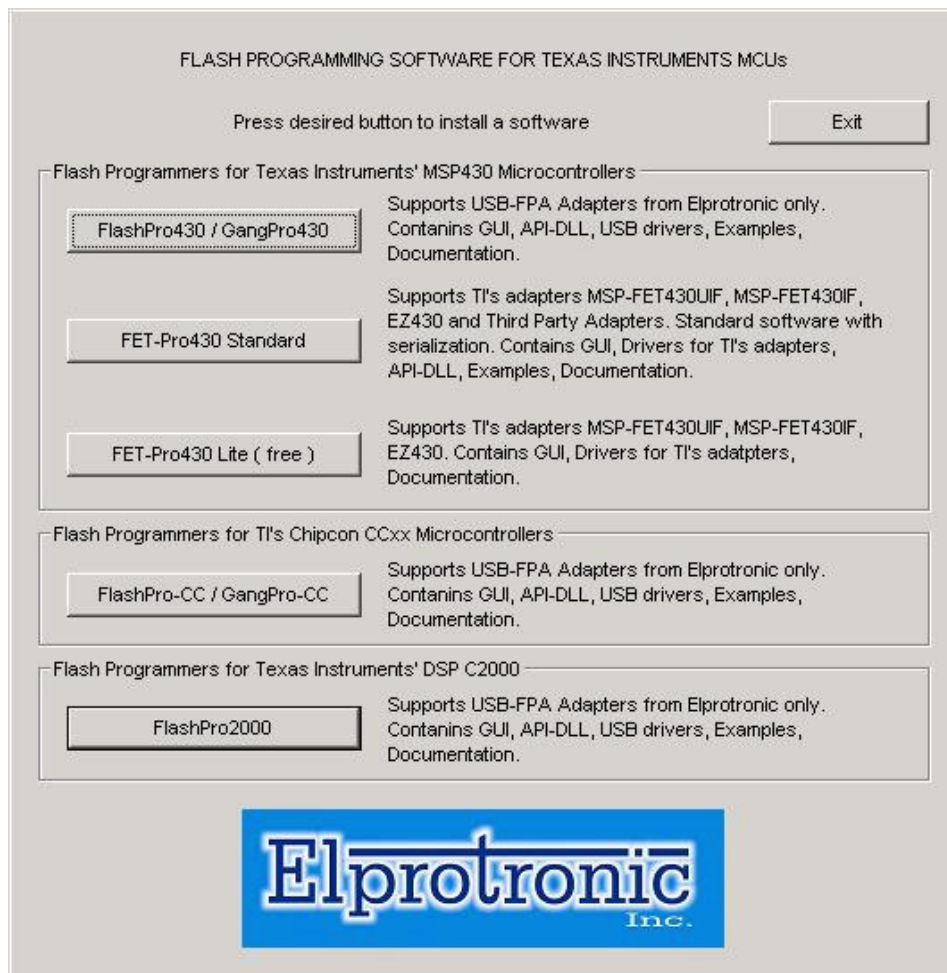

Figure 3.1-1
2. The Setup wizard appears automatically. Click **FlashPro2000** button to start the installation process (Figure 3.1-1).